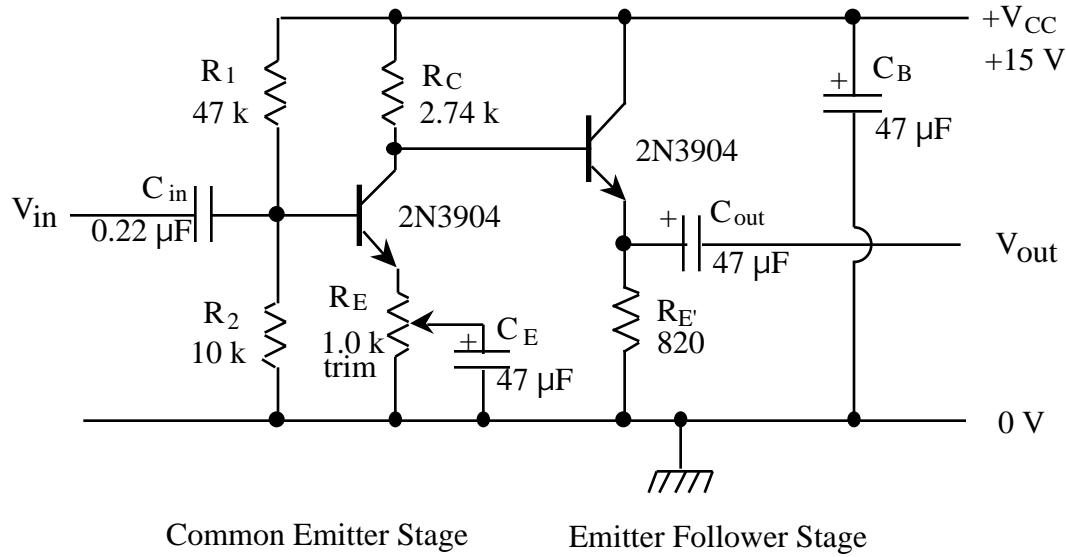

Figure 7.5 Complete Two-stage Amplifier Circuit
Now  $R$  stands for whatever impedance is connected to the base. For our two-stage amplifier shown in Figure 7.5, the emitter-follower base is connected to the collector of a common emitter stage, and so  $R$  is the output impedance of that stage, which is equal to  $R_C$ .
5. Calculate the output impedance for the emitter follower circuit shown in Figure 7.5. What fraction of the original output amplitude do you expect to obtain when you attach the 560 load to the emitter follower output?
Assemble the emitter follower circuit shown in Figure 7.5. Do not connect the  $560\text{ }\Omega$  load to the output yet.